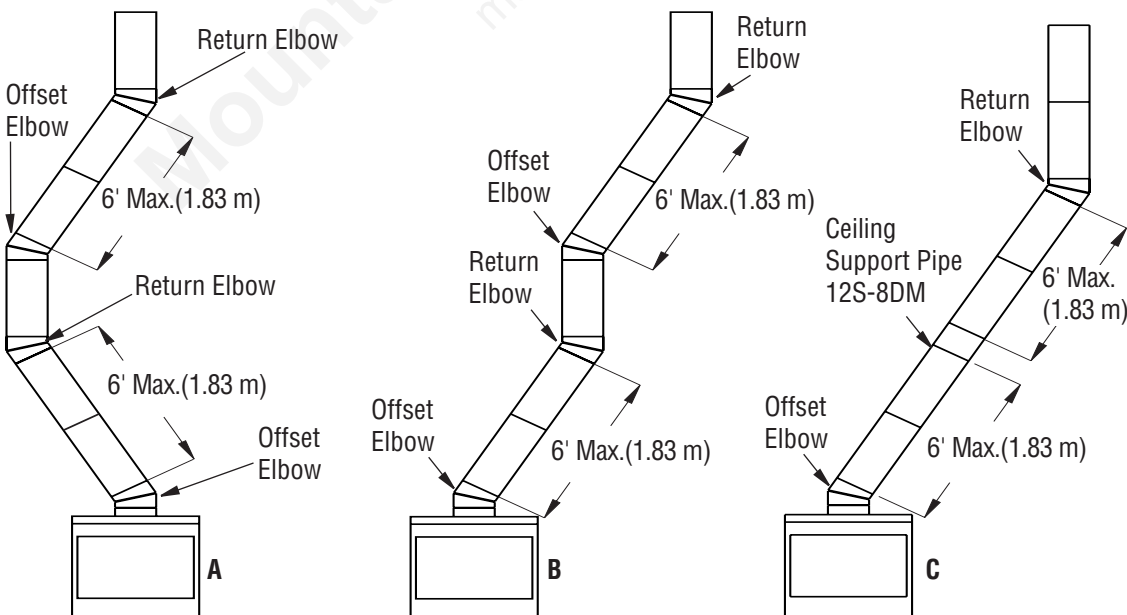

Figure 18 - Typical Offset Installation
3. Maximum length of pipe between supports (return elbow or 12S-8DM) is 6' of angle run. Maximum of two 6' angle run sections per chimney system (see Figure 18, page 11).